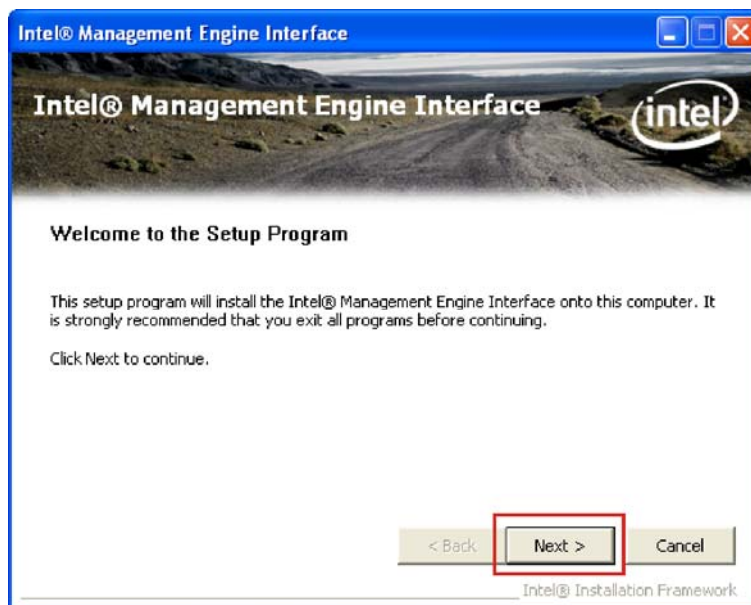

Figure 6-33: AMT HECI Welcome Screen
Step 3: Double-click the setup file (Figure 6-33).
Step 4: The welcome screen appears (Figure 6-33).